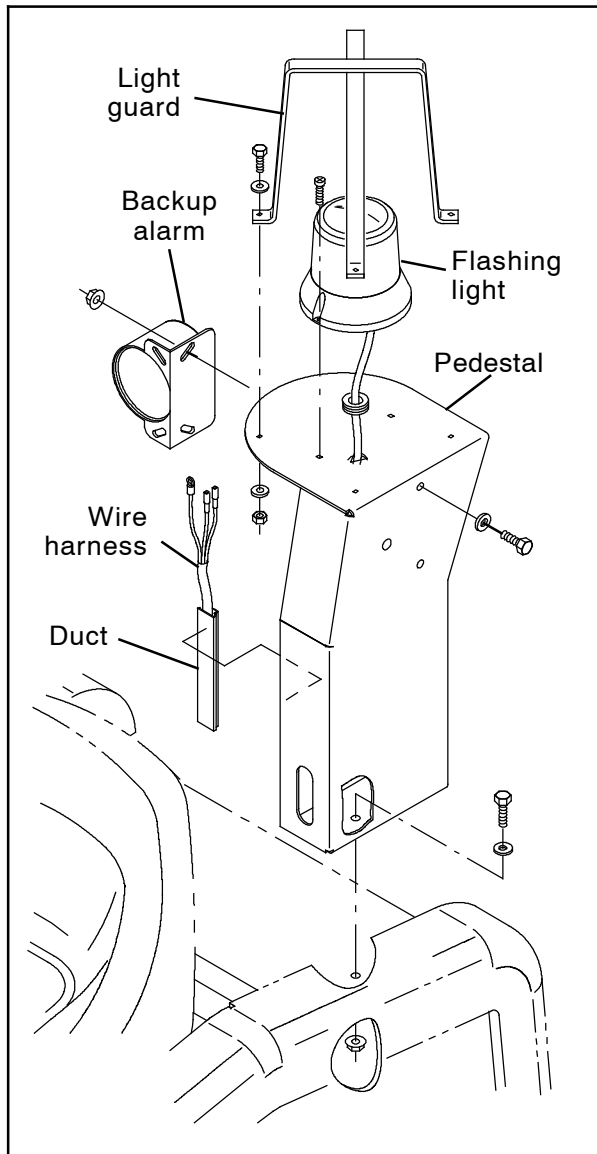
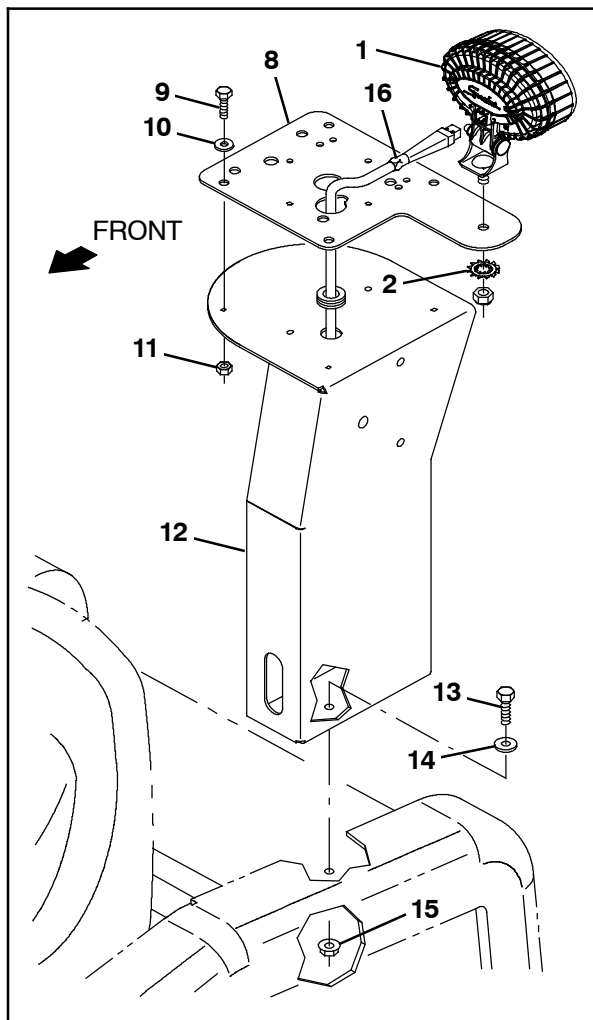

FIG. 12
FIG. 13
18. Disconnect the harness from the flashing light and/or backup alarm. (Fig. 12)
19. Remove the light guard/flashing light, and/or the backup alarm from the pedestal. Set the light guard/flashing light, and/or the backup alarm and all mounting hardware aside. (Fig. 12)
20. Remove the pedestal from the filter box assembly. Discard the pedestal and mounting hardware. (Fig. 12)
21. Use four M5 hex screws (9), four flat washers (10), and four M5 hex nuts (11) to install the rear spotlight bracket (8) onto the pedestal (12). (Fig. 13)
23. Use two M8 hex screws (13), two flat washers (14), and two M8 flange hex nuts (15) to install the pedestal (12) onto the filter box assembly. (Fig. 13)
24. **Machines equipped with strobe light and/or backup alarm option only:** Install these items previously removed from the removed pedestal onto the pedestal (12). (Fig. 12/Fig. 13)
26. Remove the hex nut included with the remaining blue LED spotlight (1) from the light. (Fig. 13)
27. Use the hex nut removed from the blue LED spotlight (1) in the previous step and a lock washer (2) to install the blue LED spotlight onto the rear spotlight bracket (8). (Fig. 13)